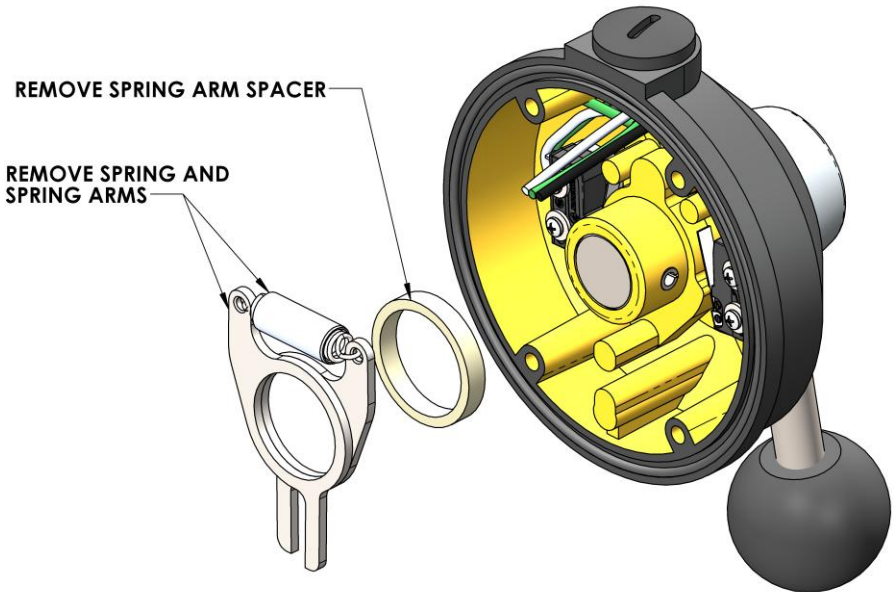

Figure 22: Removal of the spring arms and spring
5. Remove the two spring arms and spring together off of the cam hub as shown in Figure 22. The spring arms will need to be pulled together or else they will bind on the cam hub.